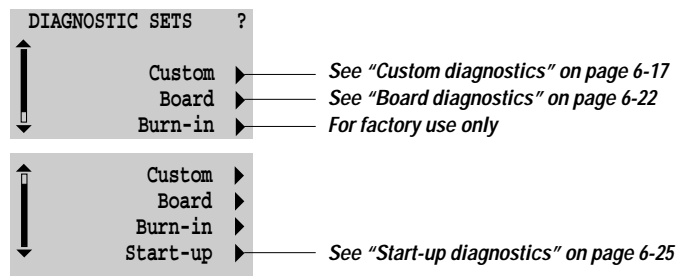

Figure 6-4 Fiery XJ-R/R2 diagnostic sets
4. Release the up arrow button as soon as you see the Diagnostic Sets display window. See Figure 6-4.